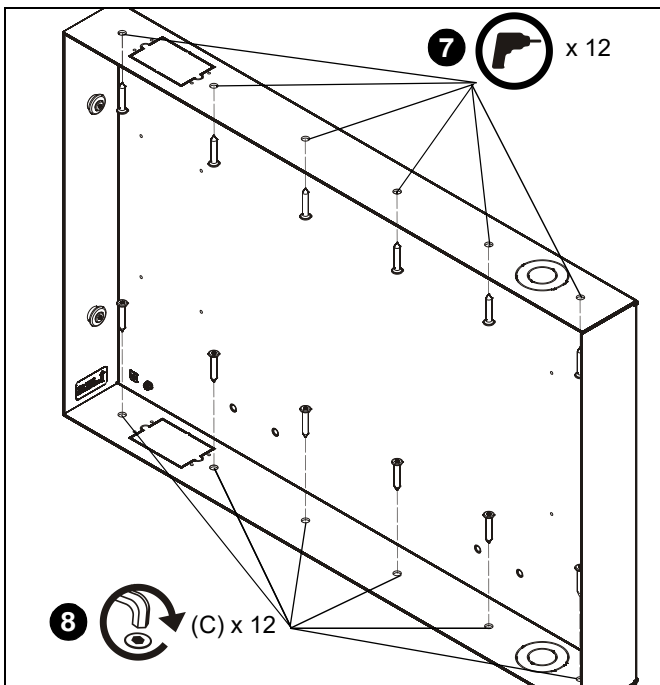

Figure 5
7. Drill eight 3/16" diameter pilot holes in horizontal framing at top and bottom mounting holes. (See Figure 5)
8. Attach the TA500 (A) to horizontal framing using twelve M7 x 40mm Allen head connector screws (C) using an M4 Allen head drill bit (E). (See Figure 5)